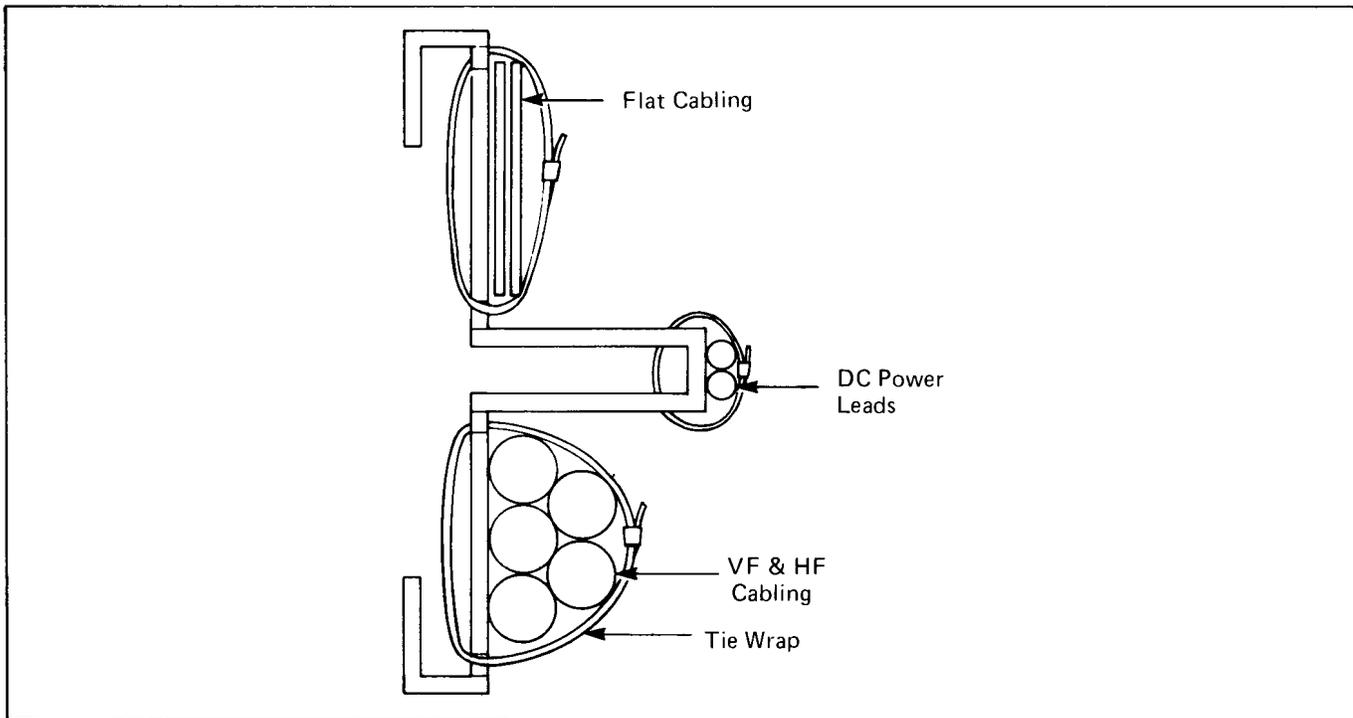

Fig. 9 – Cabling Channel and Brackets
2.10 The vf and hf cable pairs are routed along the cabling channel located at the bottom front portion of the cabinet to the cross-connect field located in the battery compartment. Cabling brackets are provided to secure the vf and hf cables (Fig. 9).